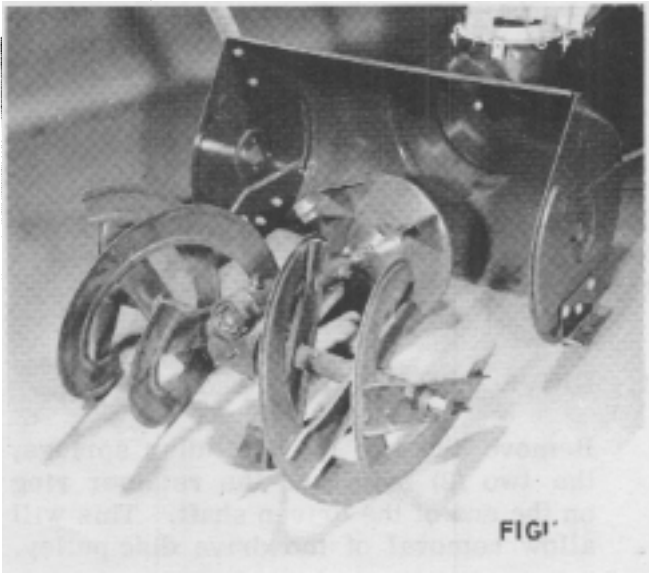

FIG 16
d. Pull auger, gearcase, impeller and shaft from main frame housing to free impeller drive pulley and collar. See Fig. 16.